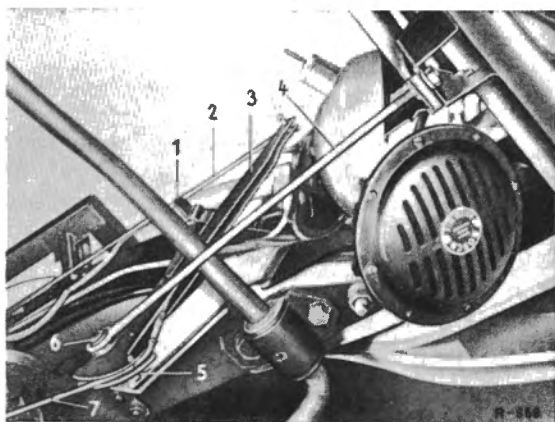

Fig. 42-20/6
Tighten the wing nut (1) on the brake lever (3) (Fig. 42-20/6) or the wing nut (8) on the relay lever (5) (Fig. 42-20/8) until the hand brake begins to take effect, when there is a distance of 60—65 mm between the bracket of the guide tube and the damper ring on the ratchet. Correct adjustment of the wing nut enables the ratchet to be pulled out about 12—13 notches to provide a firm grip of the hand brake (Fig. 42-20/9).